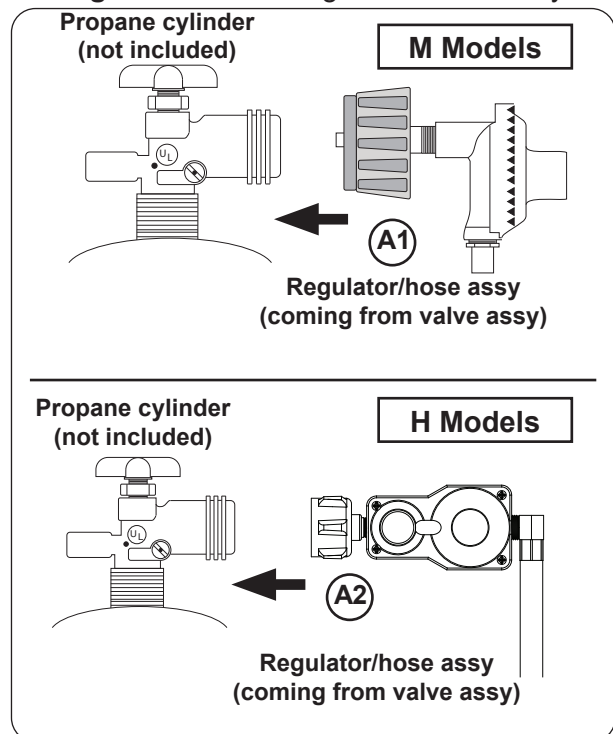

Fig. 32-2 Connecting hose assy to L.P. cylinder
2. Attach the regulator end of the hose assembly to a propane cylinder (not included) and tighten (see Fig. 32-2, A1 or A2).